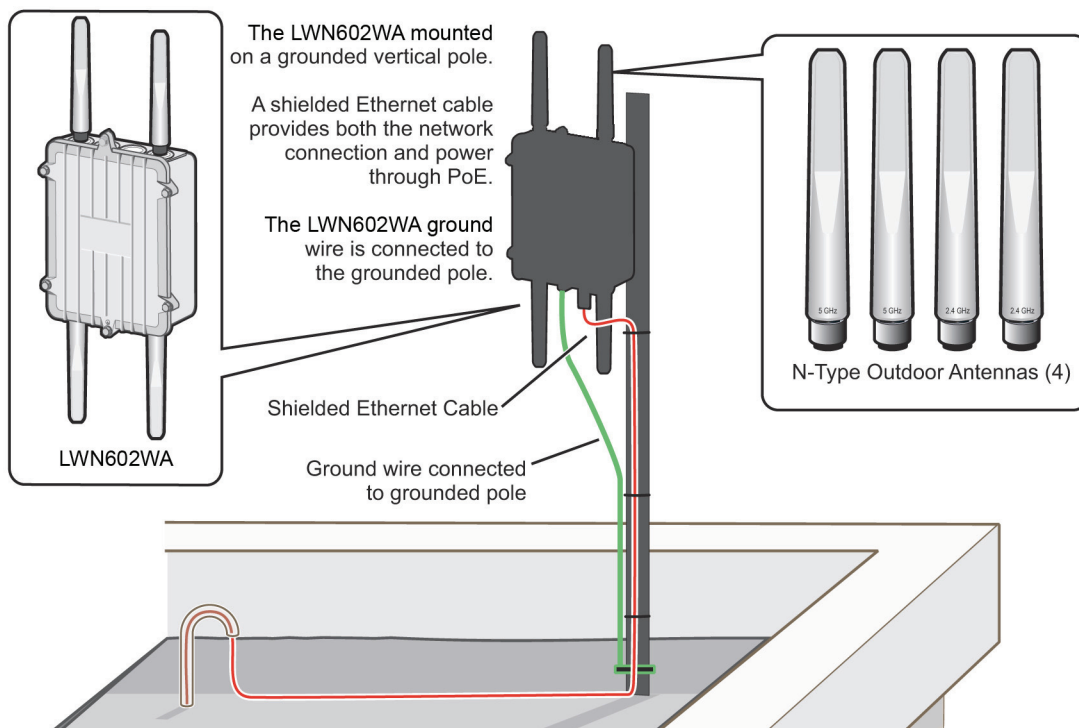
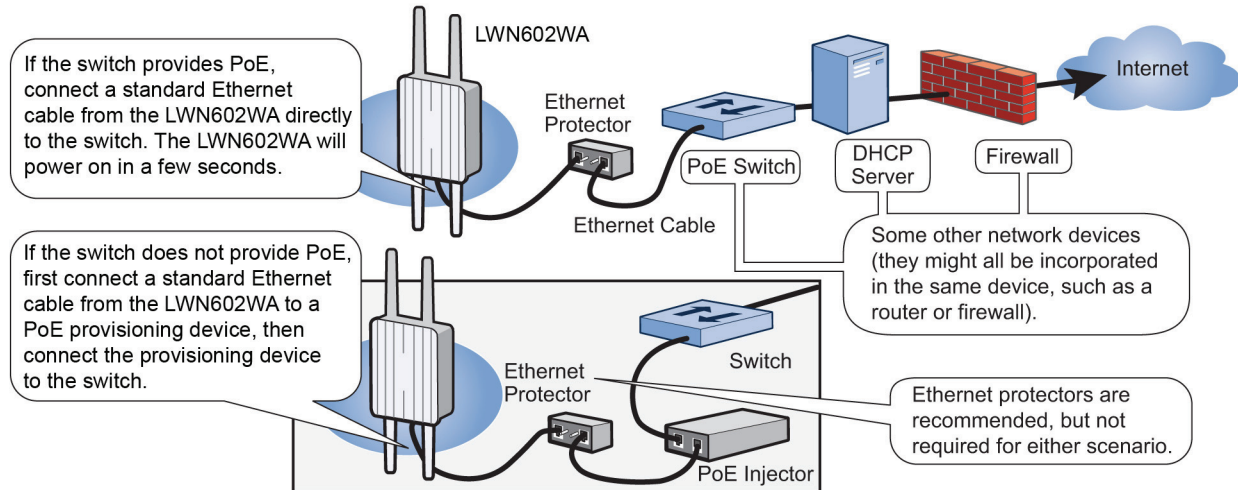

Figure 2. LWN602WA mounted on a vertical pole with major devices and accessories called out.
Figure 13. Connecting the LWN602WA to the network.
After checking that you have all the materials and tools necessary, and familiarizing yourself with the safety and site hazard warnings, you are ready to mount the unit. You can mount the LWN602WA on a vertical or horizontal pole, or attach it to a flat surface. These options are described below. The device and mounting accessories required for mounting the LWN602WA are shown in Figure 2.
In most cases, you can connect an Ethernet cable directly from your LWN602WA to a PoE-enabled switch, or to a PoE injector inside the building (see Figure 2). If you are not using a PoE-enabled switch, you must connect to an intermediary PoE injector, then to your switch (see Figure 13). In cases where your LWN602WA is located a significant distance from the building, you can install an outdoor waterproof PoE injector, available separately (contact Black Box Technical Support at 724-746-5500 or info@blackbox.com for details).
7. Connect the other end of the Ethernet cable to a PoE-enabled switch, or PoE injector. See Figure 13.
The final step to the installation is to connect the LWN602WA to the network so that it can form a Control and Provisioning of Wireless Access Points (CAPWAP) connection to SmartPath EMS, as shown in Figure 13.